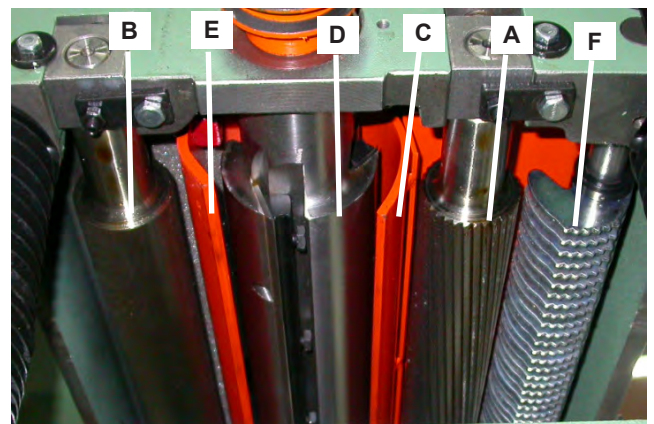

Fig 27
The infeed roller (A) and outfeed roller (B) Fig. 27 are those parts of your planer that feed the stock while it is being planed, The infeed roller and the outfeed roller are under spring tension and this tension must be sufficient to feed the stock uniformly through the planer without slipping but should not be so tight that it causes damage to the board. The tension should be equal at both ends of each roller.